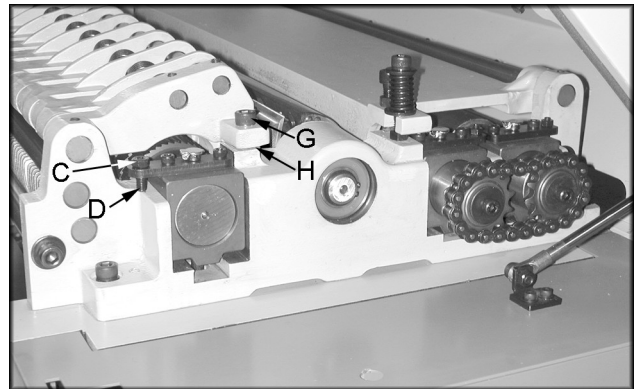
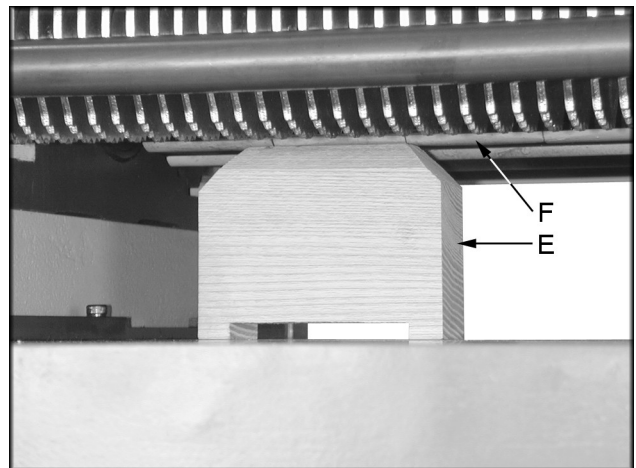

Figure 15
Figure 16
3. Remove feeler gauge and place wood block under the left side of in-feed roller. The top of wood gauge should just contact the in-feed roller. If it doesn't, loosen jam nut (C, Figure 15) and turn the adjusting screw (D, Figure 15) to raise, or lower the in-feed roller until it contacts wood gauge. Repeat for opposite side of the in-feed roller.
3. Remove feeler gauge and place wood gauge (E, Figure 16) under the left side of chipbreaker (F, Figure 16). The top of the wood gauge should just contact the chipbreaker. If it doesn't, remove the socket head cap screw (G, Figure 15) and remove washer (H, Figure 15), or replace with a shim of proper thickness to raise, or lower the chipbreaker until it contacts the wood gauge. Repeat for opposite side of the chipbreaker.